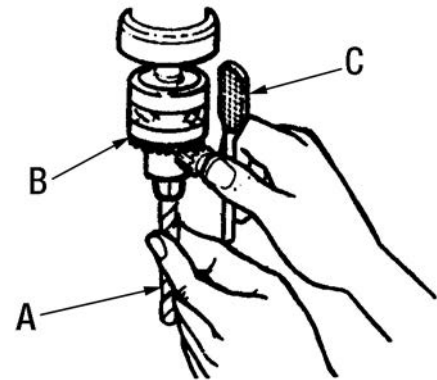

FIGURE 18
Insert the drill bit (A) Fig.18 into the chuck (B) far enough to obtain the maximum gripping of the chuck jaws. When using a small drill bit, do not insert it so far that the jaws touch the flutes (spiral grooves) of the bit.